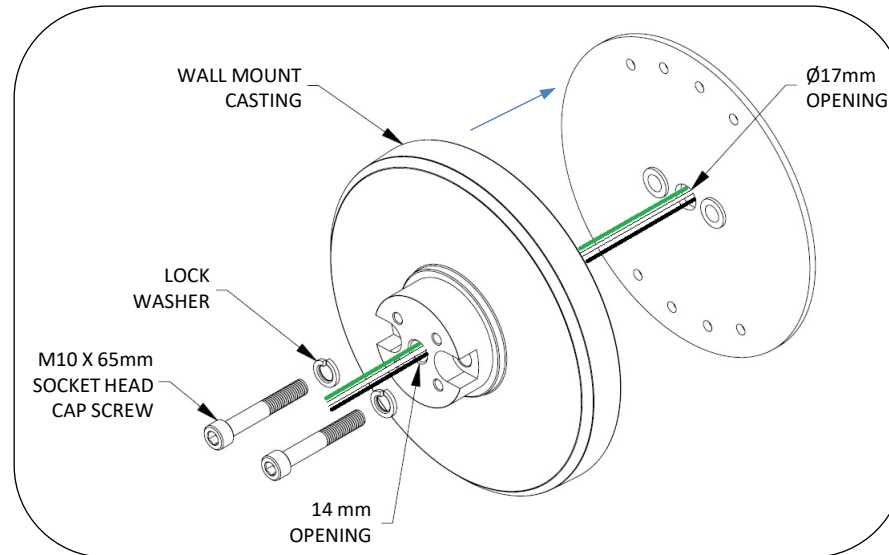

Fig. 2 – INSTALL WALL MOUNT CASTING
6. Pull line-in voltage wiring and optional dimming wires through access hole in casting. Attach wall mount casting to wall mount plate, see Fig. 2.